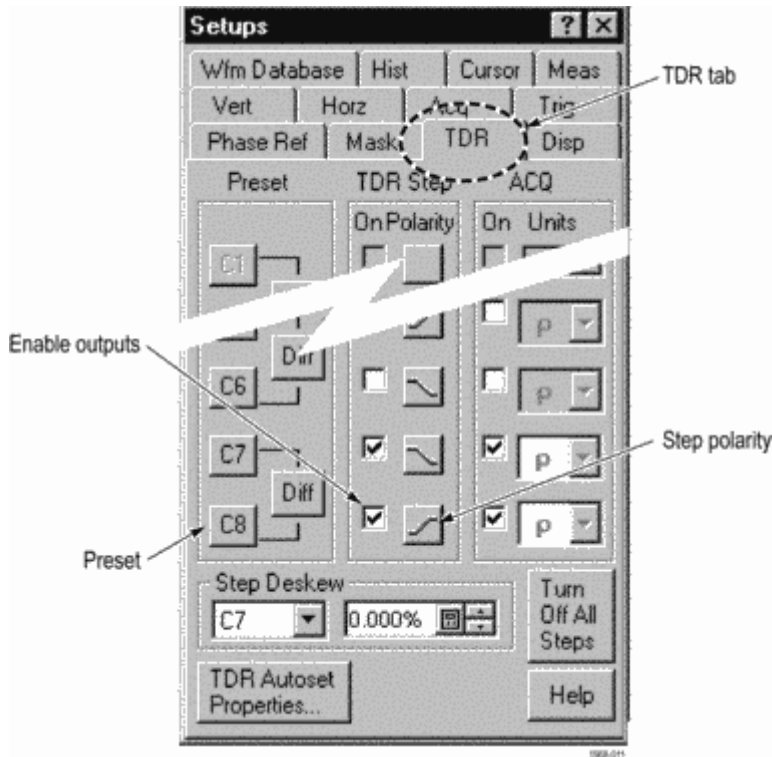

Figure 31: Setting the TDR parameters
- Set the Channel 7/8 sampling head to TDR mode: Push the SETUP DIALOGS button and select the TDR tab. (See Figure 31.)